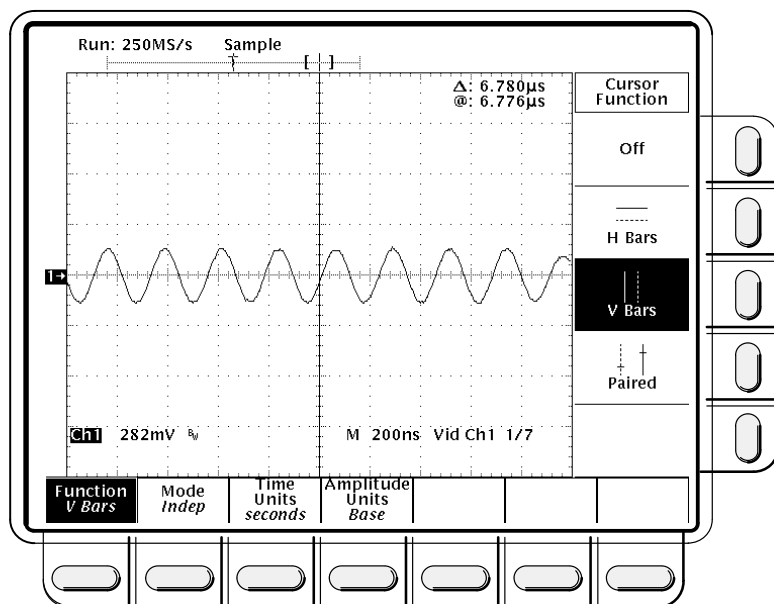

Figure 1-38: Line Count Accuracy Correct Result Waveform
- Verify that the cursor is positioned on a positive slope of the burst signal (See Figure 1-38).